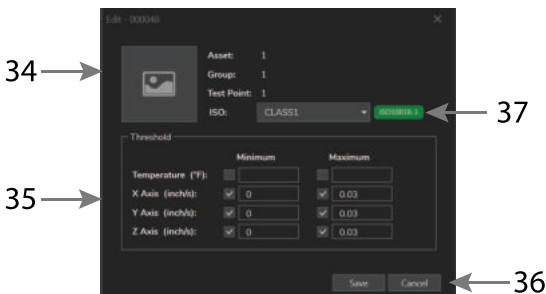

Figure 10.7 Click the edit pencil to open this sensor options screen.
28. Click the pencil to open the EDIT window (shown below in Figure 10.7).